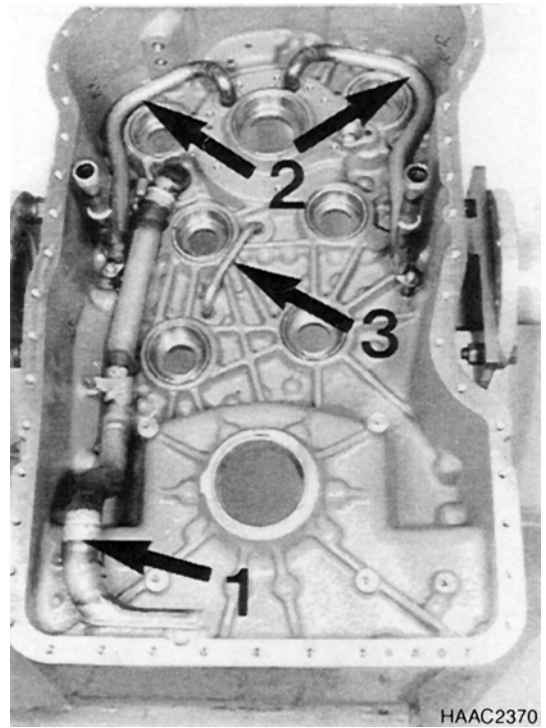

Figure 158
3. Insert suction tube (1, Figure 158), pressure pipe (2) and pressure pipe lubrication (3) into the housing bores.
4. Fasten suction tube (1) and pressure pipes (2) provisionally using socket head screw and hex. nuts.